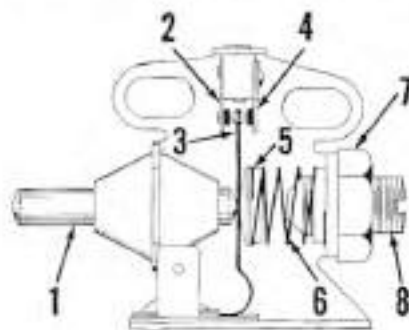

Fig. Mc123—Schematic view of tachometer point assembly showing method of adjustment. Refer to text.
TACHOMETER. Some electric models are equipped with an electronic tachometer which is controlled by contact points mounted in the ignition distributor and activated by the distributor cam (See 22—Fig. Mc119). Three adjustments are necessary on the contact point assembly. To make the adjustments, depress the cam follower (1—Fig. Mc123) until the spring contact (3) touches